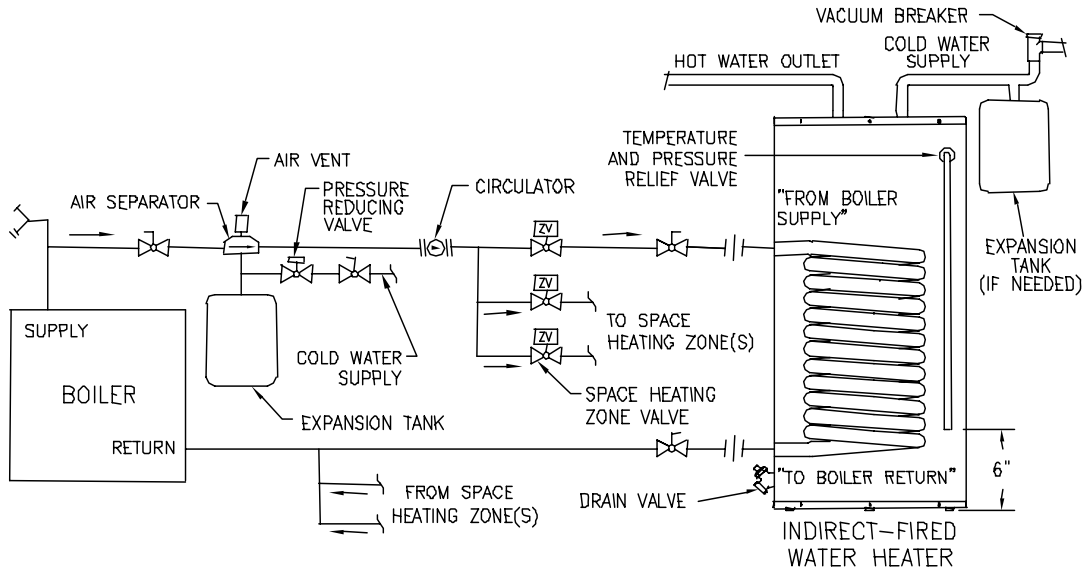

Figure 2 - Water Boiler Piping with Zone Valves
1. For a space heating system that utilizes ZONE VALVES, refer to Figure 2. The indirect-fired water heater connection labeled “FROM BOILER SUPPLY” should be piped to the boiler supply piping. Mount the circulator making sure the flow arrow points toward the water heater. The use of shut-off valves and unions are recommended for future service convenience. The use of an air separator and vent is recommended to eliminate air in the system. Pipe and fittings between the boiler and indirect-fired water heater must be ¾” diameter or larger.